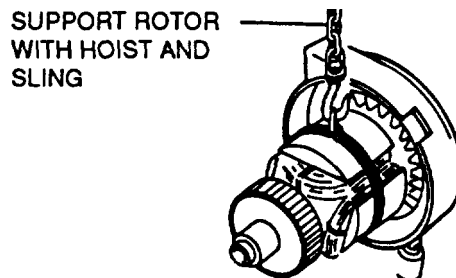
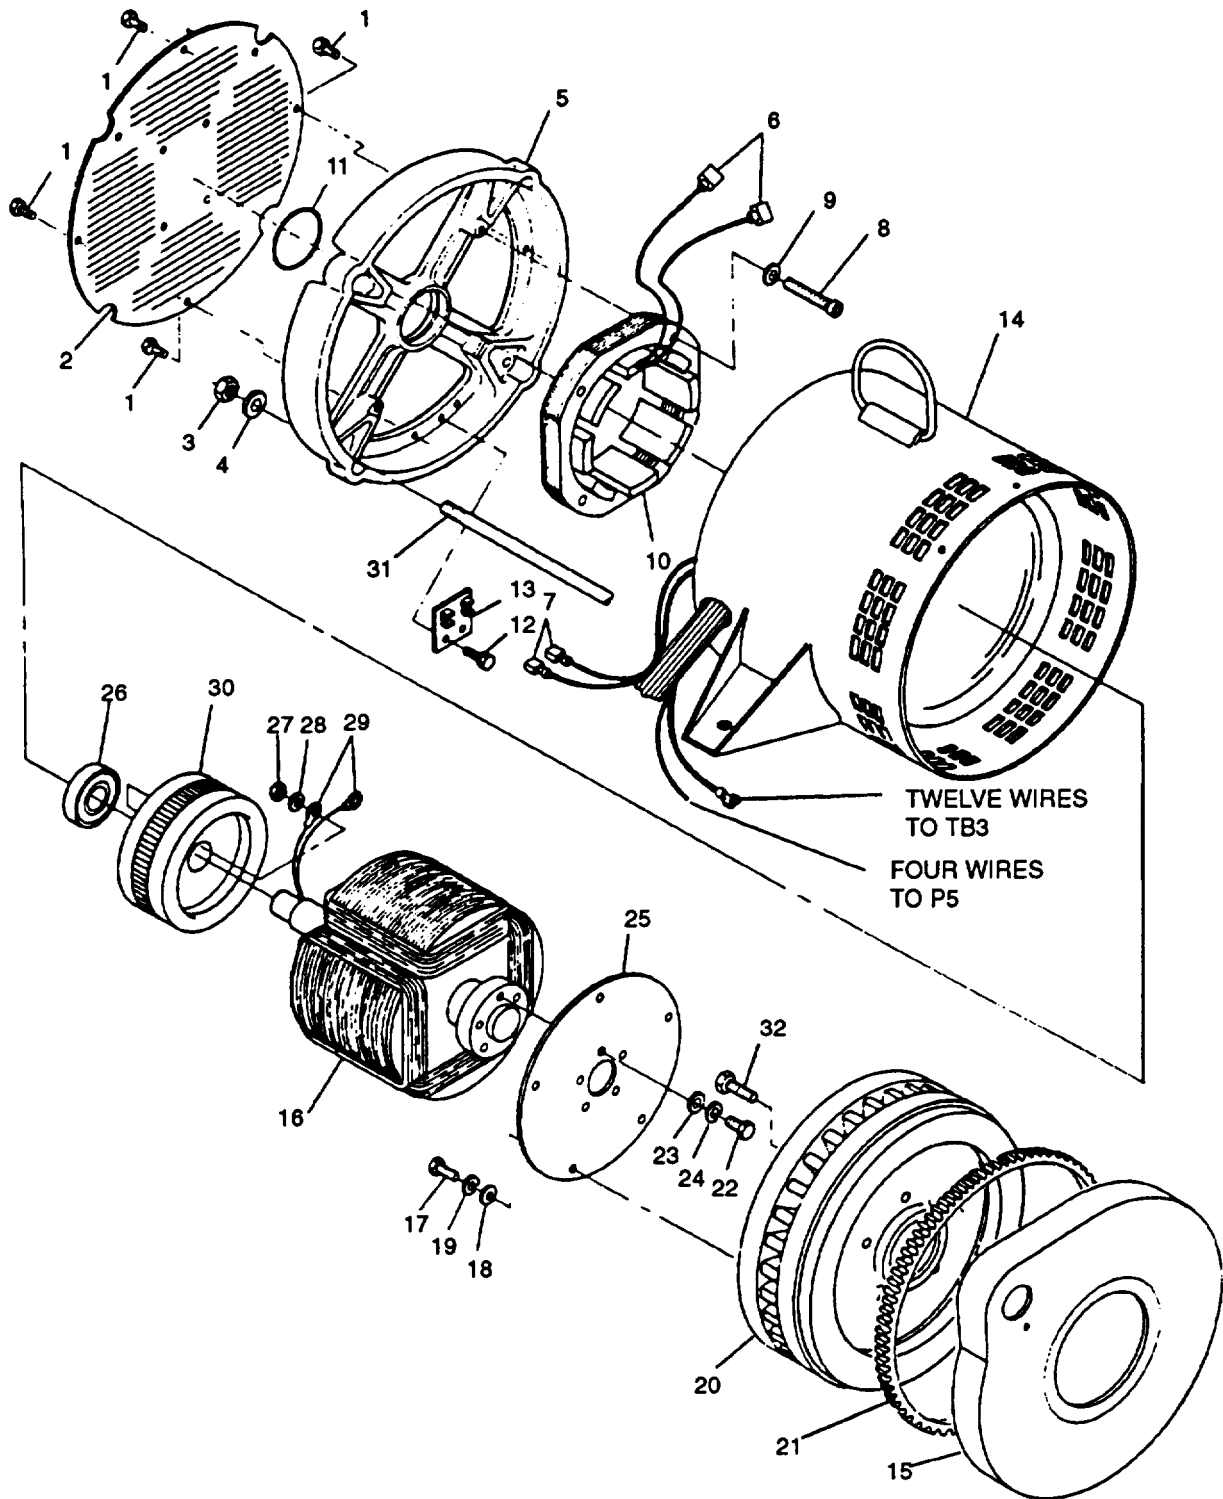

FIGURE 4-23. Support of Rotor Assembly
FIGURE 4-24. Generator Assembly (MEP-803A)
- e. Remove bolts (1, FIGURE 4-24) and end bell cover (2).
- f. Remove nuts (3), washers (4), and end bell (5).
- g. Tag and disconnect exciter stator leads (6) and AC voltage regulator leads (7) from terminal block (13) in end bell (5).
- h. Remove bolts (8), washers (9), brushless exciter stator (10), and packing (11) from end bell (5).
- i. Remove bolts (12) and terminal board (13) from end bell (5).
**Use care to avoid contact between stator (14) and rotor assembly (16).**
- j. Using lifting device attached to stator (14) lifting point, carefully pry loose (screwdriver slots provided), and remove stator (14) from engine/generator adapter (15).
- k. Use rope sling to support rotor (16), refer to FIGURE 4-23.
- l. Remove bolts (17), washers (18), lockwashers (19), and rotor assembly (16) from engine flywheel/generator fan (20).
- m. Remove bolts (22), washers (23), lockwashers (24), and drive disc (25) from rotor assembly (16).
- n. Using gear puller, remove bearing (26) from rotor assembly (16).
- o. Tag and disconnect F1+ and F2- leads (29) from rotating rectifiers by removing nuts (27) and washers (28).
- p. Using gear puller, carefully remove exciter rotor (30) from rotor assembly (16).
- q. Remove thru-bolts (31) from engine/generator adapter (15).
- r. Remove bolts (32) and engine flywheel/generator fan (20) from engine crankshaft.
- a. Inspect end bell assembly (5, FIGURE 4-24) for cracks, tom packing (11), broken terminal board (13), and other damage.
- b. Inspect exciter stator (10) for broken windings, evidence of overheating, damaged insulation, and loose terminal ends.
- c. Inspect bearing (26) for looseness and evidence of overheating.
- d. Inspect exciter rotor (30) for broken windings, evidence of overheating, damaged insulation, and other damage.
- e. Inspect rotorassembly(16) for broken windings, evidence of overheating, damaged insulation, and loose terminal ends.
- f. Inspect stator(14) for broken windings, evidence of overheating, damaged insulation, loose terminal ends, and darnaged housing.
- g. Inspect drive disc (25) for bends, cracks, elongated mounting holes, and other damage.
- h. Inspect flywheel/generator fan (20) for cracks, bent or broken fan blades, broken teeth, stripped threads, and other damage.
- a. If ring gear (21, FIGURE 4-24) is damaged, place the flywheel (20) on a solid surface.
- b. Drive ring bearing gear (21) off with a brass drift and hammer.
**Wear protective gloves to help prevent burns from handling hot ring gear (21).**
- c. Heat new ring gear (21) to 300°F (148°C) using either heated oil, oven heat, or flame heat.
- e. Install ring gear (21) against shoulder of flywheel,
- b. Coat mating area between bearing (26, FIGURE 4-24) and end bell (5) with grease (Item 9, Appendix C).
- c. Install engine flywheel/generator fan (20) on engine crankshaft with bolts (32). Torque bolts (31) to 51 ft-lbs. (69 Nm).